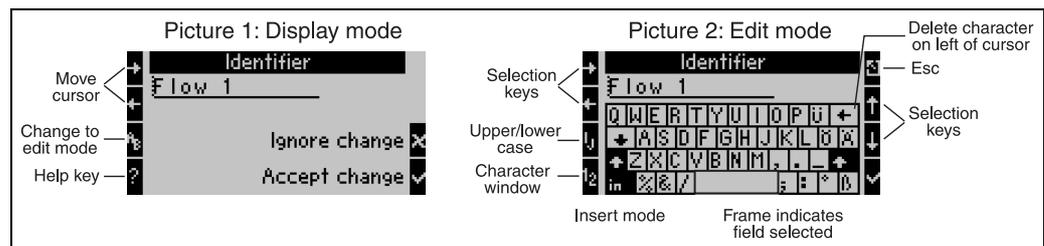

Fig. 15: Example: editing an identifier with the Palm keyboard
- Using the cursor keys, place the cursor in front of the character before which another character should be entered. If the entire text should be deleted and rewritten, move the cursor completely to the right. (see Fig. 15, graphic 1)
- Use the ij/IJ and 1/2 key to select upper/lower case or numerals. (see Fig. 15, graphic 2)
- Use the cursors to select the key required and use the tick sign to confirm. If you want to delete text, select the key in the top right. (see Fig. 15, graphic 2)
- Press the Esc key to switch from the editing mode to the display mode and accept changes with the 'tick' key. (see Fig. 15, graphic 1)
- The cursor cannot be moved in the editing mode (see Fig. 15, graphic 2)! Use the Esc key to go to the previous window (see Fig. 15, graphic 1) to move the cursor to the character which should be changed. Then confirm the AB key again.